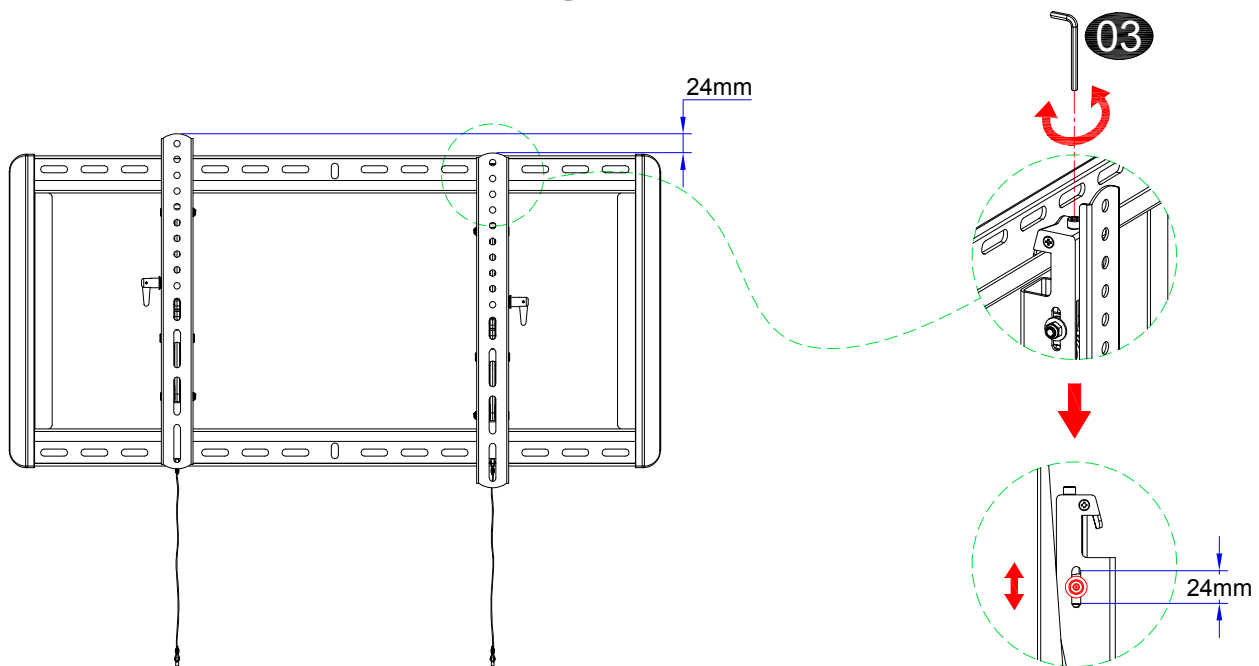

Figure 5
Step 4: Tighten or loosen these 2 screws on the top of bracket (B) and (C) to level your TV by using the allen key 03. (Figure 5)